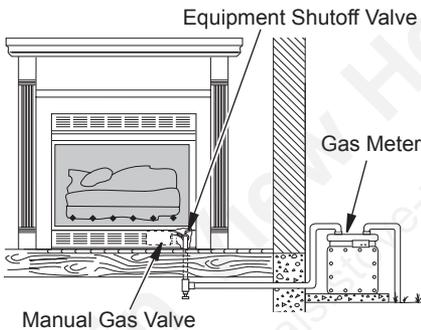

Figure 28 - Checking Gas Joints for Natural Gas Fireplace
3. Check all joints from gas meter for natural gas or propane/LP supply to equipment shutoff valve for propane/LP gas (see Figures 28 or 29, page 20). Apply noncorrosive leak detection fluid to all joints. Bubbles forming show a leak.
4. Check all joints from equipment shutoff valve to gas valve (see Figure 28 or 29). Apply noncorrosive leak detection fluid to all joints. Bubbles forming show a leak.